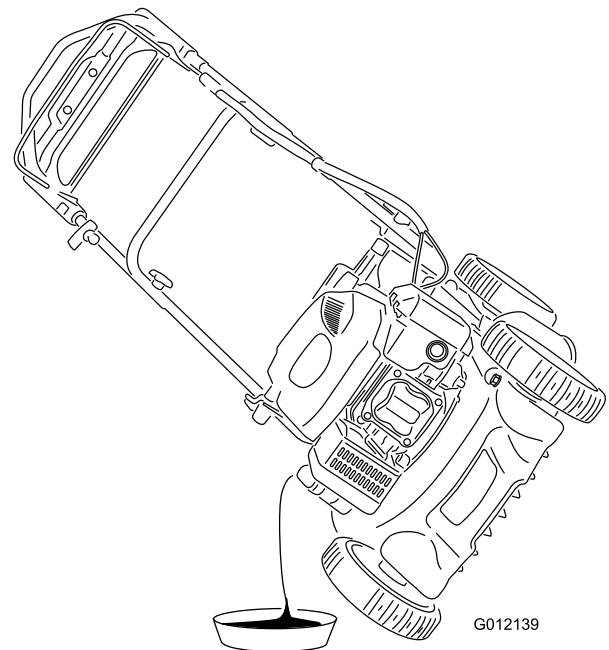

Figure 20
4. Tip the machine onto its side, with the dipstick down, to drain the used oil out through the oil-fill tube into an oil drain pan (Figure 20).